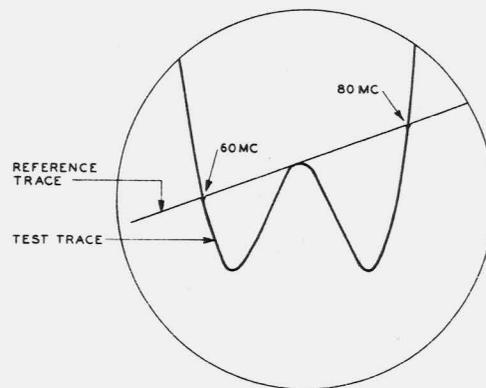

Fig. 12 - Typical Output Impedance Characteristic of IF Buffer Amplifier
- (4) Adjust the attenuation of AT13 and AT14 as required until the test trace is as close to the reference trace as possible, but still below it from 60 to 80 mc. Fig. 12 shows a typical characteristic.
- (9) Adjust the attenuation of AT13 and AT14 as required until the test trace is as close to the reference trace as possible, but still below it from 60 to 80 mc. Fig. 12 shows a typical characteristic.